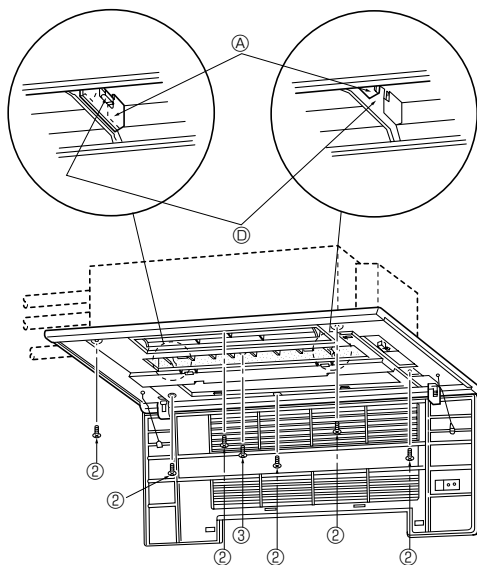

Fig. 5-5
- Adjust the front panel so that it fits properly in the angle between the ceiling and the wall, and install the securing bolts Ⓒ (supplied with this grille) in their four places at left and right, leaving them slightly loose. (Fig. 5-5)
[Fig. 5-5]